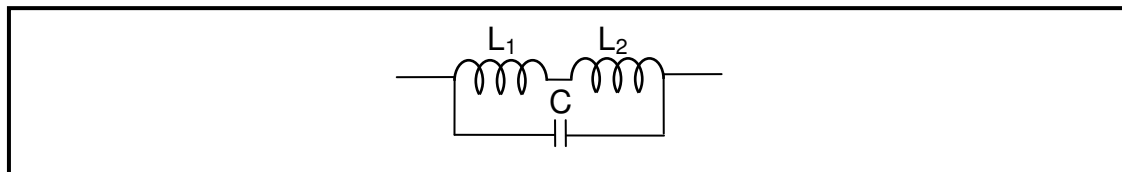

FIGURE 7.4: TANK CIRCUIT OF A HARTLEY OSCILLATOR
7.8 Calculate the resonant frequency of a Hartley oscillator consisting of two coils of 40 mH each and a capacitor of 0,65 μ F. The tank circuit of the Hartley oscillator is shown in FIGURE 7.4.